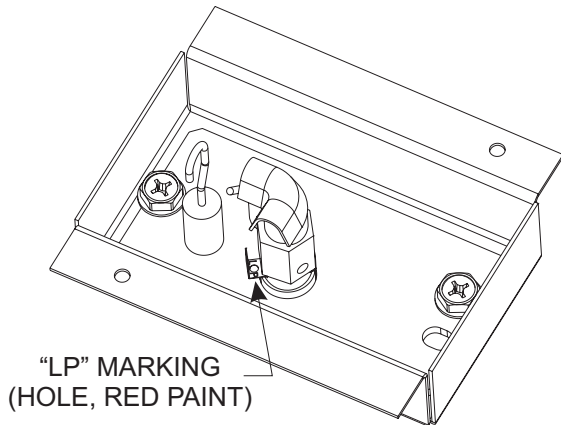

Figure 8
11. Using a 7/16 inch open wrench, loosen pilot body by slightly turning counter-clockwise. Slide orifice bracket to other side and tighten pilot body clockwise. **See Figure 8.**